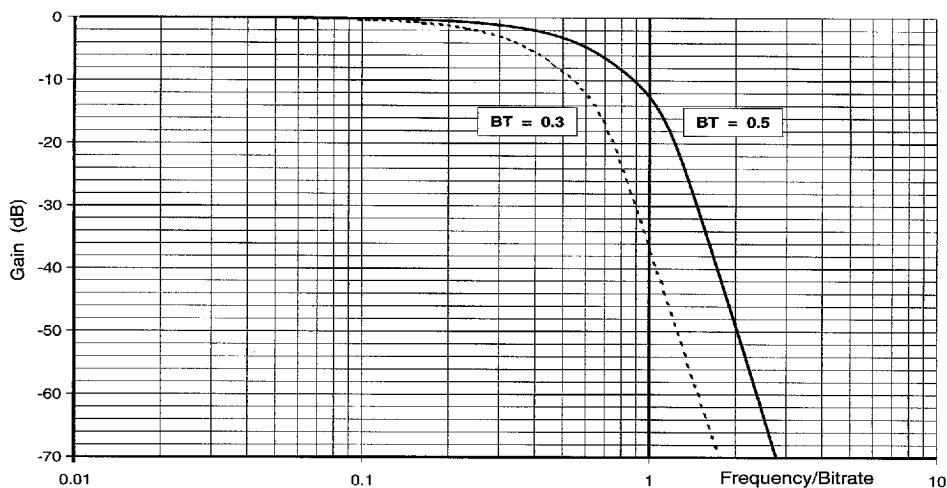

Figure 9 - TX Filter Response
The TX Filter has a lowpass frequency response, which is approximately gaussian in shape as shown in Figure 9, to minimize amplitude and phase distortion of the binary signal while providing sufficient attenuation of the high frequency-components which would otherwise cause interference into adjacent radio channels. The actual filter bandwidth to be used in any particular application will be determined by the overall system requirements. The attenuation-vs-frequency response of the transmit filtering provided by the MX589 have been designed to meet the specifications for most GMSK modem systems, having a -3dB bandwidth switchable between 0.3 and 0.5 times the data bit-rate (BT).